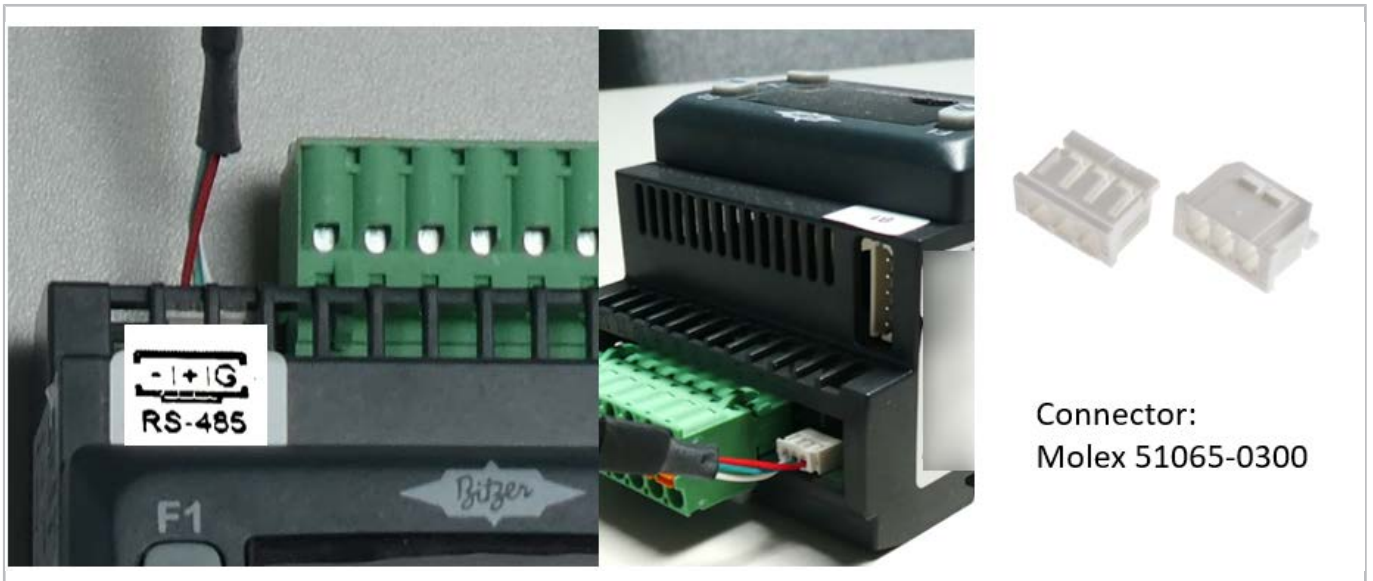

Fig. 16: Modbus connection at ECOLITE controller
- Variant 1: Plug your LAN cable into the ethernet port 1 (see figure below) to connect a local ethernet network that is connected to WAN (wide area network = internet access). In case of DHCP connection (Dynamic Host Configuration Protocol), no other steps are required. If a static IP address has been assigned to the gateway in the settings of the router and further settings like a DNS and/or NTP server were required by the administrator of the network: *see figure 16, page 38*.
- Variant 2: Install and set up a SIM card for mobile communication (GSM). For details: *SIM card installation, see figure 16, page 39*.